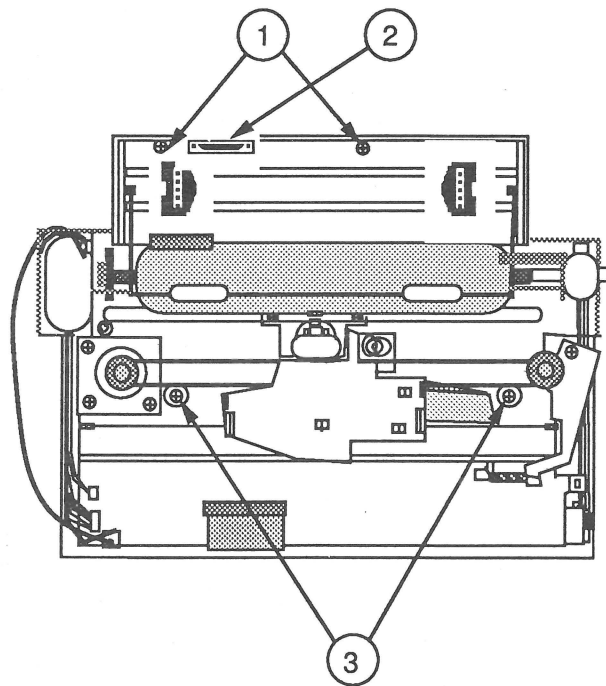

FIGURE 13
13. Remove the two screws (Figure 13, #1) that secure the upper mechanical assembly frame to the printer case.
14. Remove the sheetfeeder option plug screws and bracket (Figure 13, #2) at the back of the printer. Gently push this connector to the rear of the printer off its mount. This step is important when separating the mechanical assembly from the printer case.
15. Remove the two shock mount screws (Figure 13, #3) located in the bottom of the printer below the carriage. After removing the screws, move the carriage assembly all the way to the right.